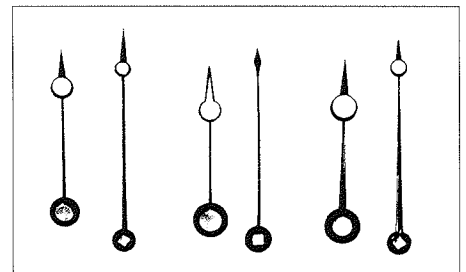

Figure 3.
4) Daniels shows the various styles of hands used by Breguet (Figure 3). None have the diamond shape on them that yours has.